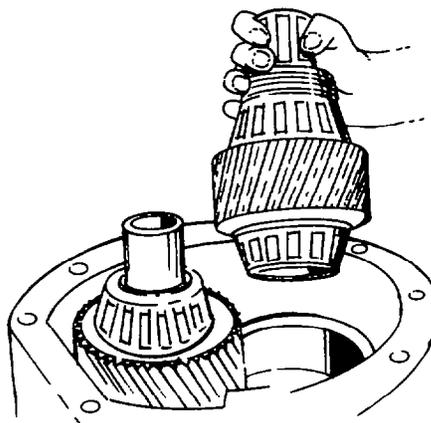

Fig. 262 — Installing Front Driving Shaft Assembly
- ae. Install the front driving shaft assembly (see fig. 262).